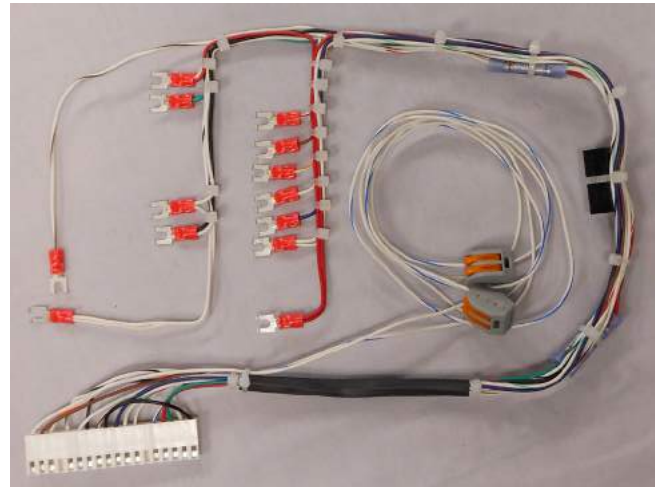
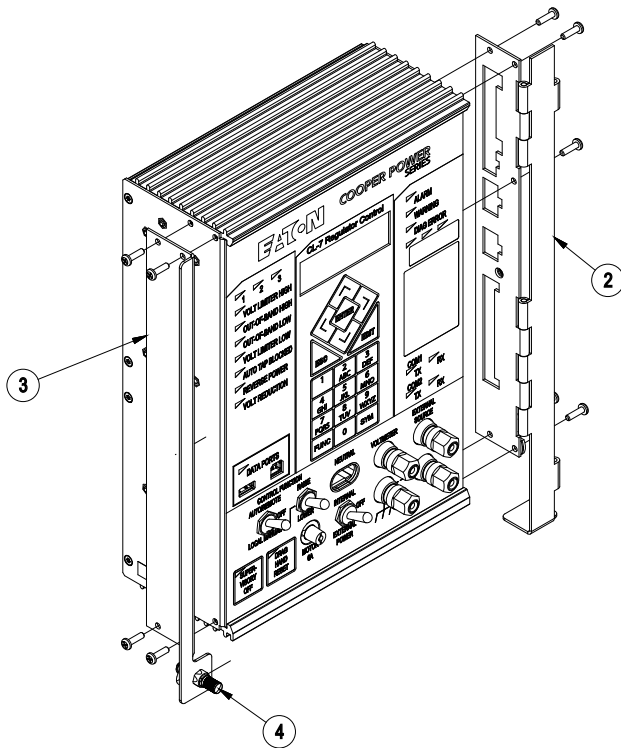

Figure 26. Item 1, General Electric fork-terminal wire harness
Figure 28. Installing hinge and bracket assemblies
Note: If the General Electric wiring harness (**Figure 26**), hinge bracket and latch bracket (**Figure 28**) have already been installed on the new CL-7 control, proceed to **Step 11**.
Note: The GE harness may be equipped with two wires colored white and white/blue with two-terminal connectors as shown in **Figure 26**. The wires are for connection to the CL-7 control general purpose inputs (GPIs). The wires can be used for analog voltage reduction or other programmable functionality. See document MN225003EN, *CL-7 Voltage Regulator Control Installation, Operation, and Maintenance Instructions* for more information on the GPIs.
3. Install the General Electric latch bracket (Item 3) on the left side of the control using the screws retained from the last step. See **Figure 28**.
7. Install the General Electric hinge bracket on the right side of the control using the screws retained from **Step 4** and the last step. See **Figure 28**.